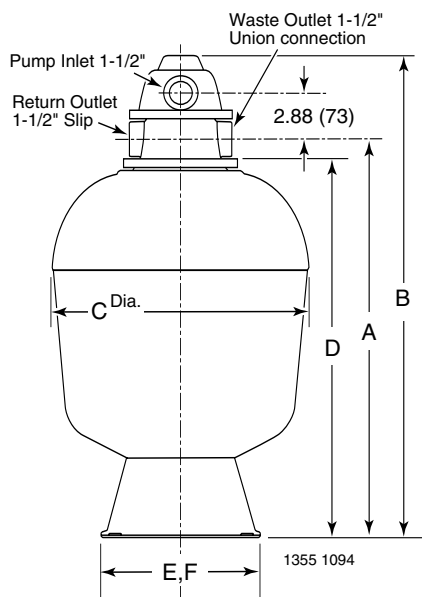

Fig. 1: Dimensions, T-150BP-1, T-170BP-1 T-200BP-1, T240BP-1
- Provide space and lighting for easy access for routine maintenance. (See Figures 1 and 2, Table II, Page 4, for space requirements.)